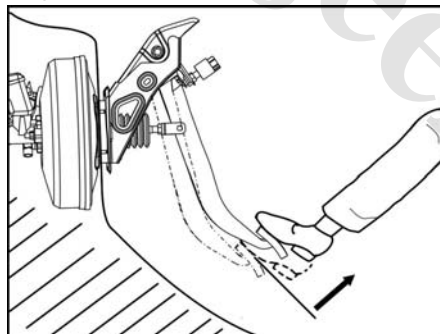

Fig. 2-49
1) Check the air tightness. See Fig. 2-49.